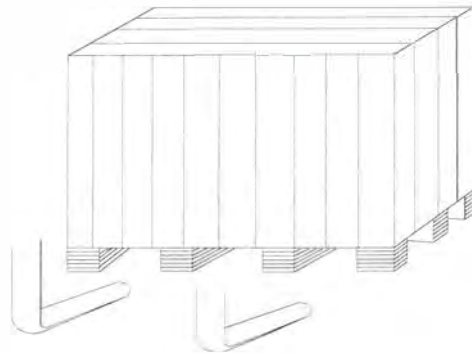

Fig4
4. 1. 1After being sure that the package of your machine is perfect, you can carry the wheel balancer to the installation site.(Fig4). The choice of the installation should comply with the following requirements. The ambient temperature is 0℃-50℃ and the RH ≤85%. And